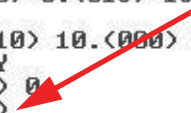

Figure 4-23 Telnet Config Password Screen
15. Type **N** in response to “Change telnet config password”. The instrument is shipped without a password. Changing the telnet password or providing one is discouraged, except for absolute security requirements. If a password is applied and forgotten, the instrument will have to be returned to Lighthouse to get the password cleared. See Figure 4-23.